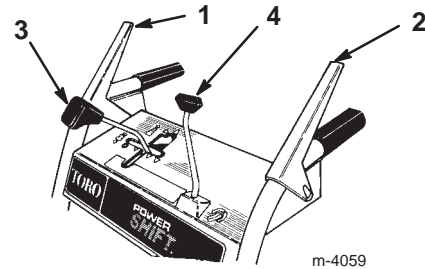

Figure 13
- **Auger/Impeller Drive Control Lever** (Fig. 13)—To engage both the auger and impeller, press the lever against the right handgrip. To disengage, release the lever.
- **Traction Control Lever** (Fig. 13)—To engage the traction (wheel drive), press the lever against the left handgrip. To stop the traction, release the lever.
- **Speed Shift Control** (Fig. 13)—This control has a neutral position, 4 forward speeds, and 2 reverse speeds. It also controls the power shifting of the wheels. To select a speed, move the shift control to the desired position.
- **Discharge Chute Control** (Fig. 13)—Rotate the discharge chute control clockwise to move the discharge chute to the right; counterclockwise to move the chute to the left.
3. Release the auger/impeller drive control lever and the traction control lever (Fig. 13).
1. Release the traction control lever (Fig. 13).